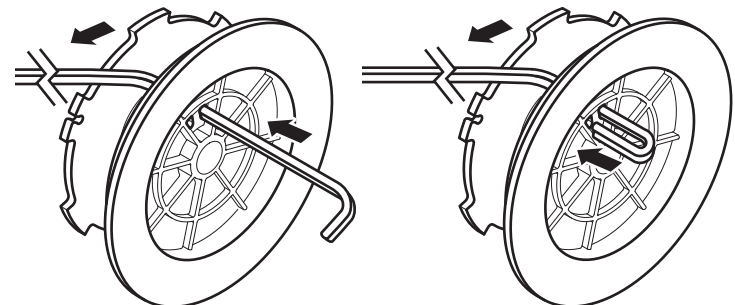

Fig. 20
2. Insert one line end through one of the two holes in the inner reel. Pull the line through the inner reel until about 4 inches (10 cm) remain (Fig. 20).
3. Insert the end of the 4-inch section into the open hole in the inner reel and pull the line tight to make the loop as small as possible (Fig. 20).